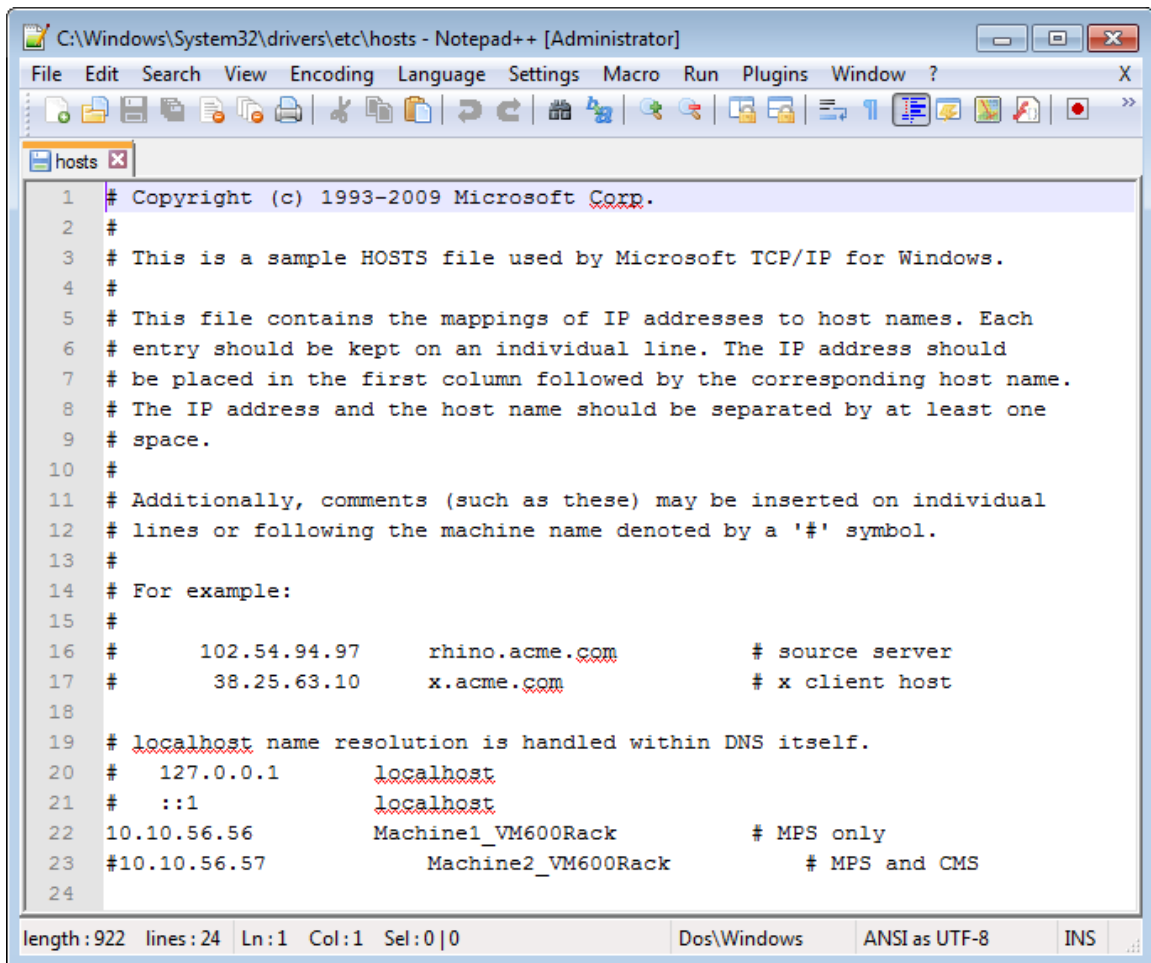

Figure 4-4: Example Windows `hosts` file
- 2- As shown in Figure 4-4, the `hosts` file lists the IP address of a device followed by its hostname, separated by one or more whitespace characters, on a single line.
For example, the `hosts` file of Figure 4-4 includes hostnames for two VM600 racks:
- 3- As shown in Figure 4-4, if everything is configured correctly, the device replies, which indicates that it is in the same subnet as your computer and is ready to be used.